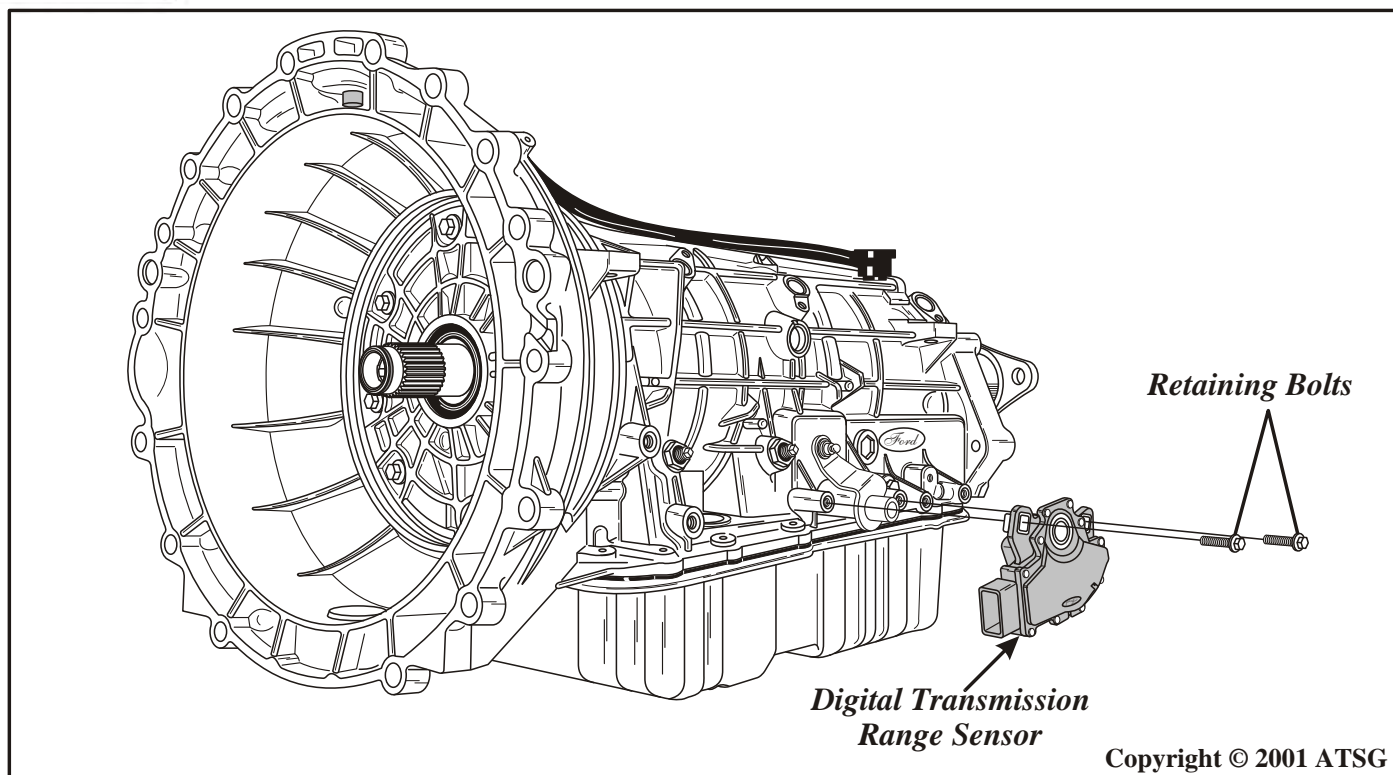

Figure 22
5. Remove the two Digital Transmission Range sensor retaining bolts, as shown in Figure 22, and remove the sensor.